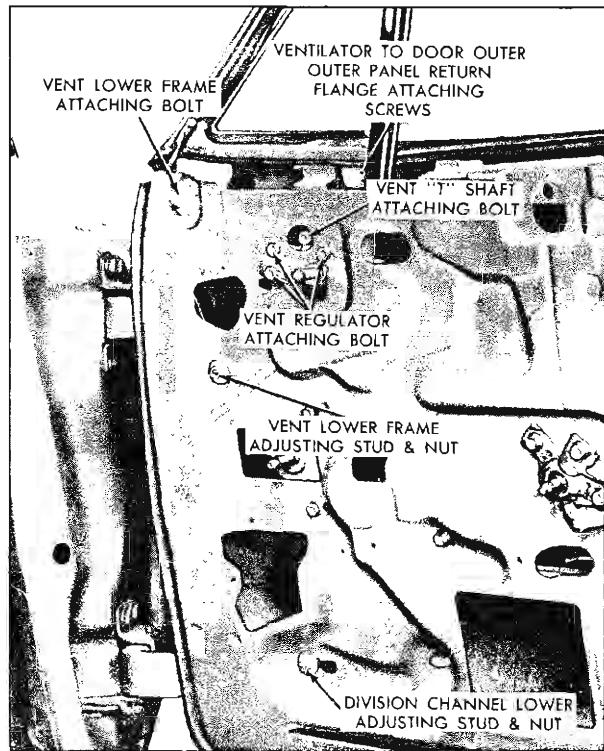

Fig. 3-22 Ventilator Attachments
3. Remove ventilator tee shaft attaching bolt and ventilator regulator attaching bolts (see Fig. 3-22).
1. Excessive "play" (flutter) of ventilator at pivot shaft, when ventilator is in an open position, can be corrected by tightening ventilator "T" shaft to regulator attaching bolt (see Fig. 3-22).
2. Lower door window. Remove ventilator to door outer panel return flange attaching screw (see Fig. 3-22).
4. Remove ventilator division channel lower adjusting stud and nut (see Fig. 3-22).
6. Remove ventilator lower frame attaching bolt and ventilator lower frame adjusting nut (see Fig. 3-22).
3. To adjust lower portion of ventilator division channel for alignment with window assembly, lower door window and loosen ventilator division channel adjusting stud nut. Turn adjusting stud in or out or position lower end of channel fore or aft, as required; then, retighten adjusting stud nut (see Fig. 3-22).
2. Remove ventilator division channel lower adjusting stud and nut. (See Fig. 3-22).